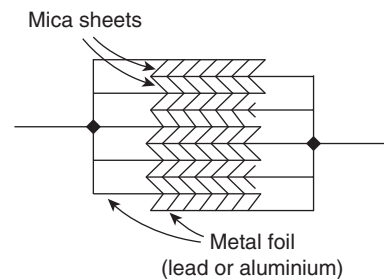

Figure 6.15
- Mica capacitors.** A typical older type construction is shown in Fig. 6.15.